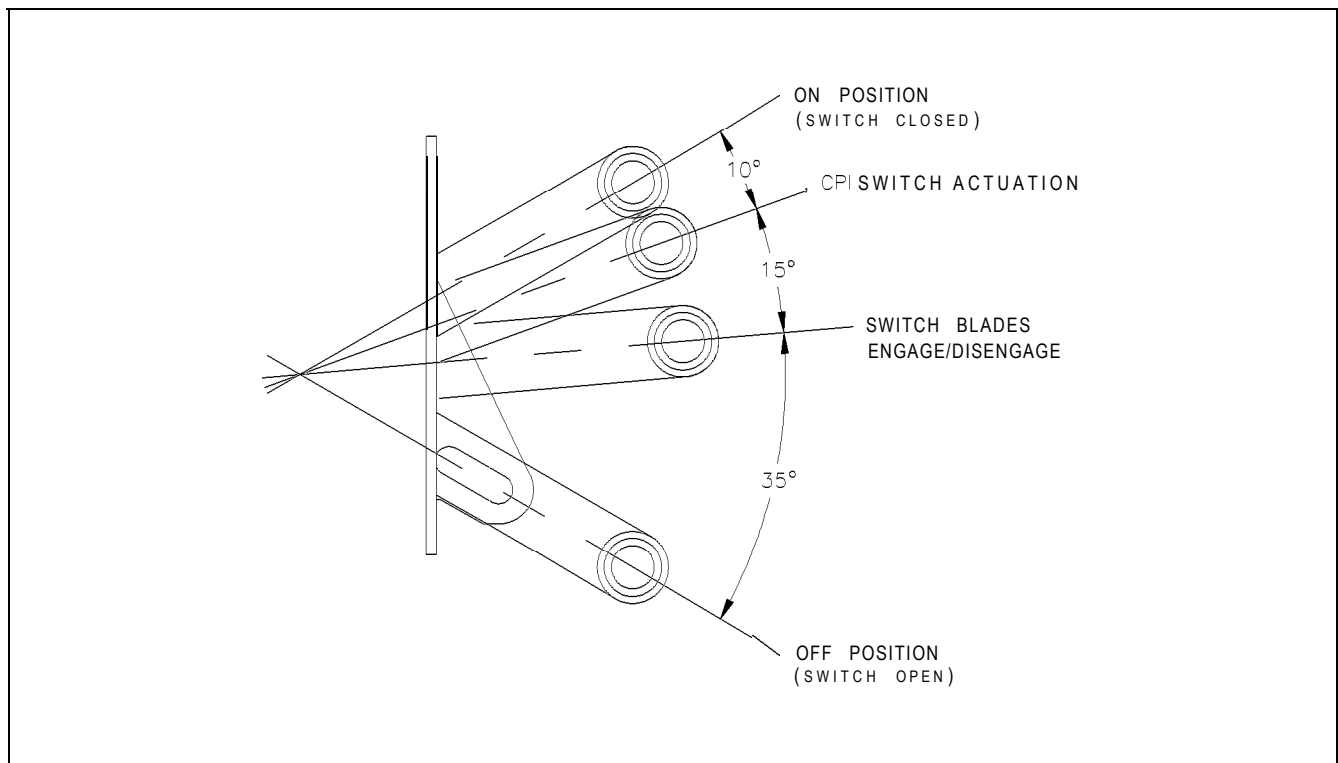

Fig. 47 Interlock Sequence Check
- Check that the CPI electrical interlock (microswitch) operates each time the handle is moved. The CPI (control power interlock) should close approximately 10° before the handle reaches the full ON position. As the handle is moved from ON to OFF, the CPI switch should open by the time the handle has moved approximately 10° or one inch (Fig. 47).